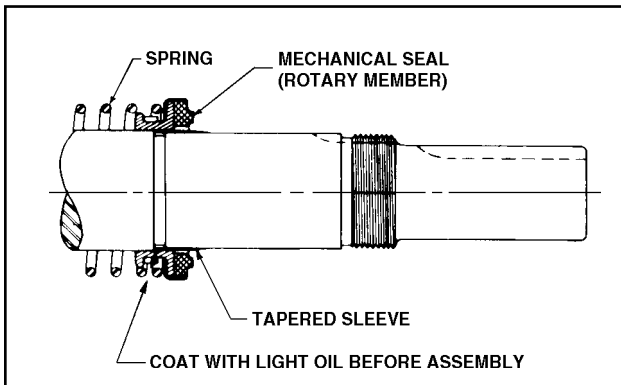

Figure 32
4. Place tapered installation sleeve on shaft. Refer to Figure 32. Sleeve is furnished with GG, AS, AK, and AL replacement mechanical seals. Coat rotor shaft, tapered installation sleeve, and inner diameter of mechanical seal rotary member with a generous amount of refrigeration oil. Petrolatum may be used but grease is not recommended.